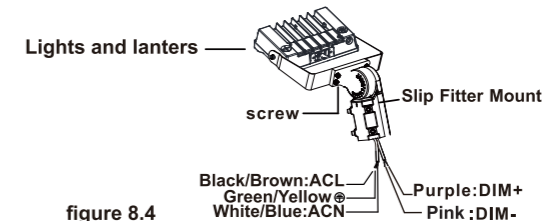

figure 8.4
Step 2: Finish the wire connection according to the right mode of connection (pay attention to positive wire, negative wire, and ground wire), and then put wire into lamp pole;(figure 8.4)